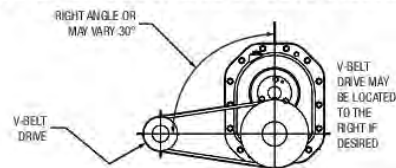

Figure 3 - Angle of V-Drive
- If not using a Dodge Torque-Arm II motor mount, install motor and V-belt drive so belt will approximately be at right angles to the center line between driven and input shaft (Figure 3). This will permit tightening the V-belt with the torque arm.